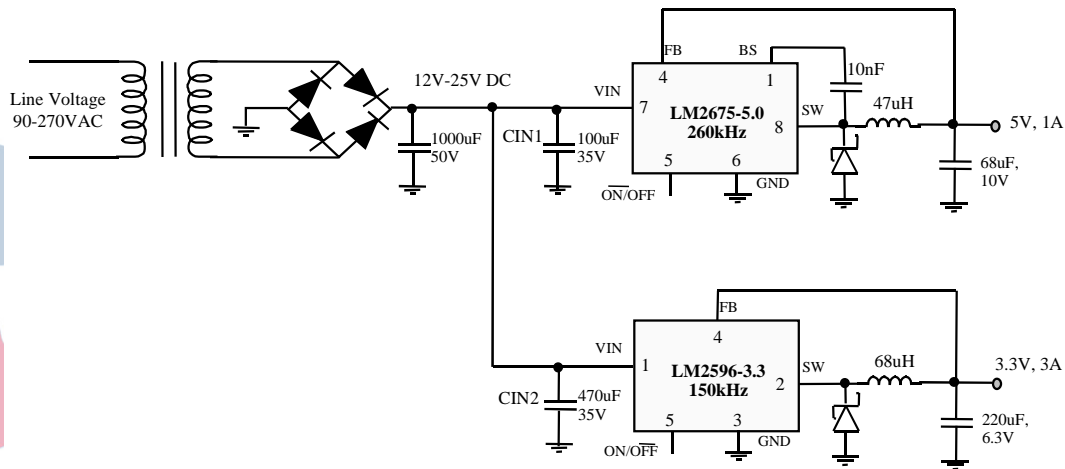
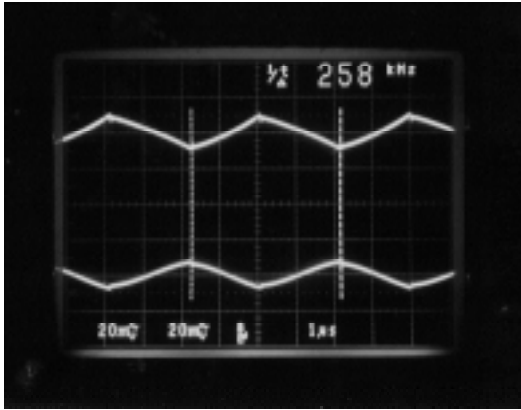

Figure 2: A distributed power system solution
Figure 3- Top: LM2675 Output Ripple(260kHz, 1A) Bottom:LM2596 Output Ripple (150kHz, No-load) A 260 kHz ripple is observed on the LM2596 output
Figure 2 shows a distributed power system that generates regulated 5V and 3.3V outputs. The unregulated DC voltage, generated from the AC line, varies between 12V and 25V and is converted to tightly regulated DC voltages using two Simple Switcher™ buck regulators. A flyback converter could have been used to perform this conversion, but it was not used because of the need for better output regulation. The two buck regulators are designed using the associated Simple Switcher design software, and their design specifications are as shown in *Table 1*.
As seen in *Figure 2*, the converters are using the same DC input source. With this simple connection, both output voltages are regulated to a tolerance of better than 5%. However, the noise performance will be poor and the converters will interfere or cross-talk with each other. In the above example, this interference can be observed in at least four different modes:
- a) Figure 3 shows the output ripple voltage of the LM2675 and LM2596 buck regulators. Because the LM2596 is a 150 kHz buck regulator, a 150 kHz ripple is expected at its output. However, as seen in *Figure 2*, a 260 kHz ripple is also observed at the LM2596 output.